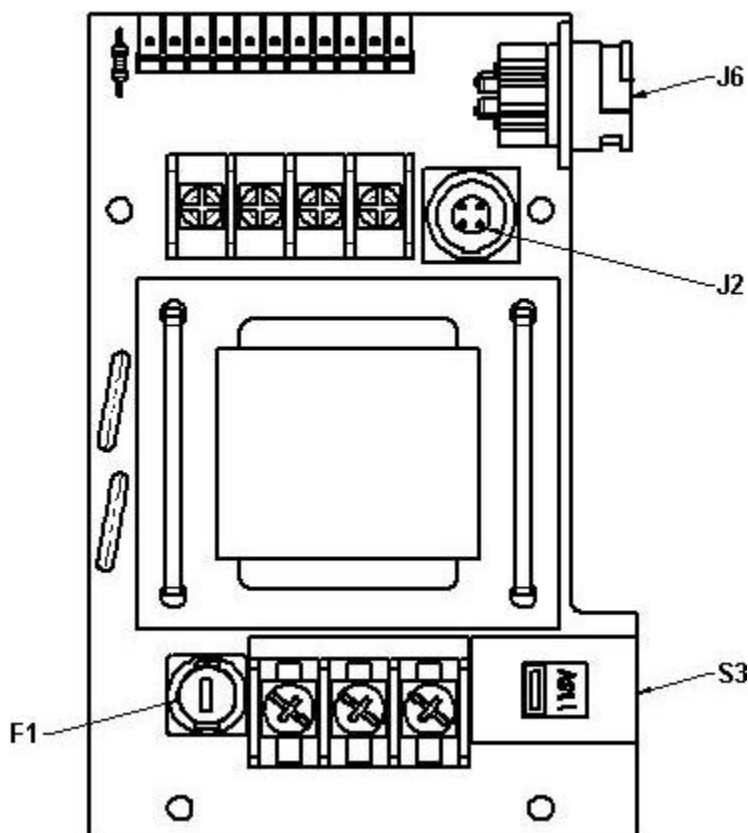
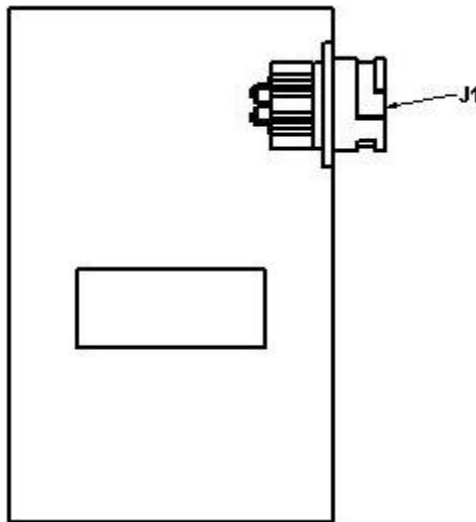

Figure 9 – Bottom PC Board
Figure 11 – Remote PC Board
If operation from  $\sim 200\text{-}240\text{ V}$  is required, fuse F1 (on bottom PC board) and fuse F1 SPARE (on main PC board) must *BOTH* be changed to T 200mA 5x20mm fuses (see replacement parts list), and voltage selector switch S3 must be set to the 230V setting. Refer to Figure 9.
- 8.02 If installing the optional Remote MRU, also mount it to the desired wall surface. Then, connect the Remote-MRU-to-pen-panel cable to J1 in the Remote MRU (refer to Figure 11, and to the appropriate D-sub connector at the pen panel. Also, connect the MRU-to-pen-panel cable to the corresponding D-sub at the pen panel, and to J6 in the MRU (refer to Figure 9).